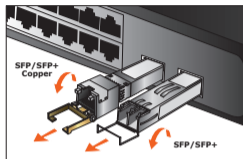

Figure 2: Removing the SFP/SFP+ Mini-GBIC Module
2. Remove the Fiber Optic Cable gently (See **Figure 2**).